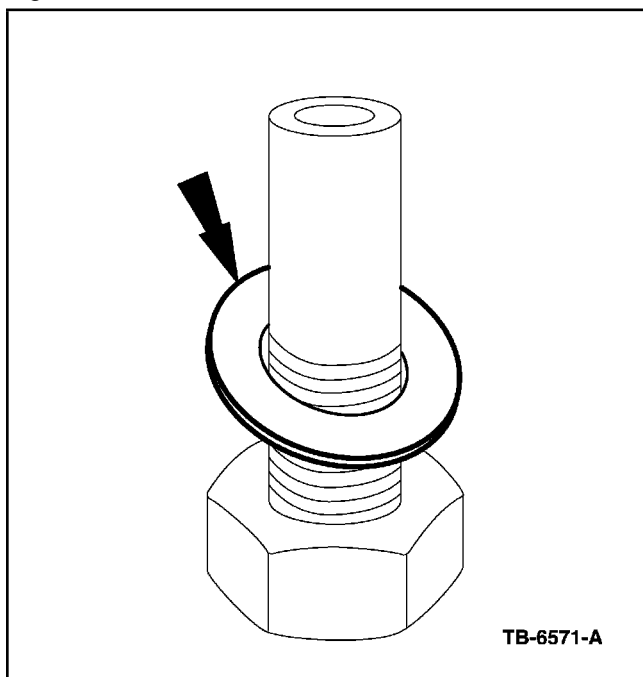

Figure 2 - Article 02-6-6
3. Install a NEW Sealing Washer (2W4Z-6734-AA) onto the fluid pan drain plug (Figure 2).